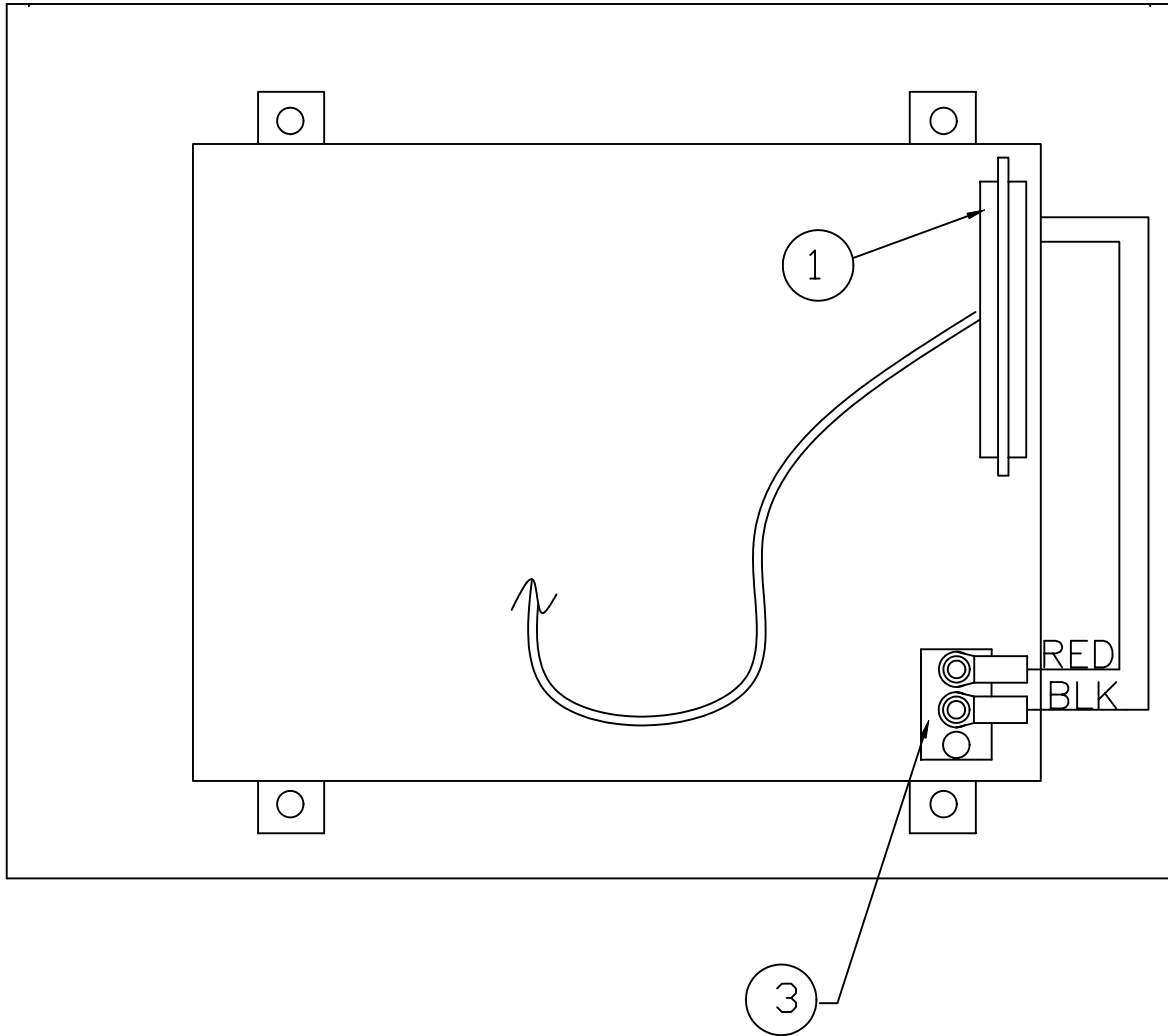

FIGURE 2
3.2 Touch Screen Part Names - Back Panel (See Fig. 2)
The contrast of the LCD may be adjusted if the screen is difficult to read. To adjust the contrast, press the <System> button located to the right side of the active touch screen area (See Fig. 2). Then press the F2 button to increase brightness and the F4 button to decrease brightness. F3 will go to the midpoint position.